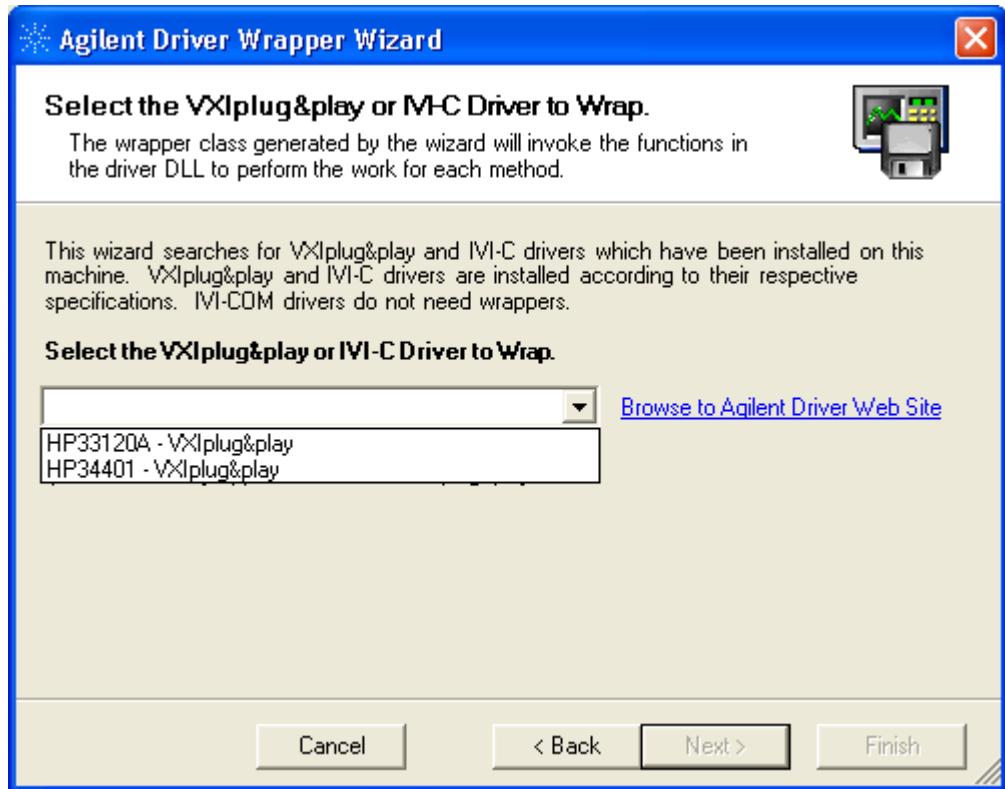
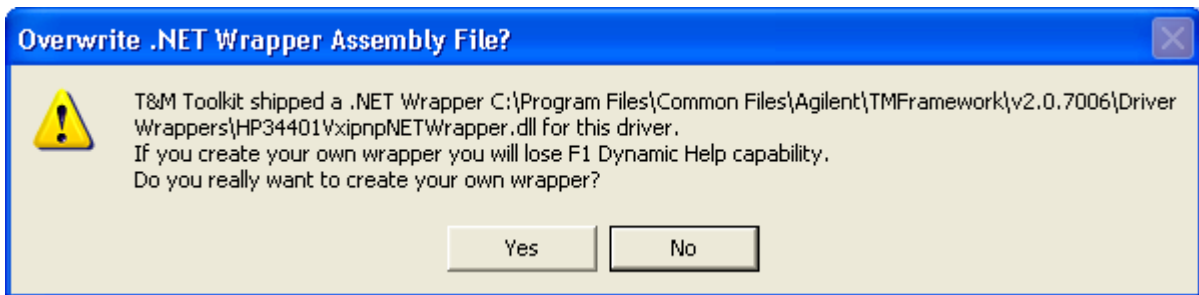

Figure 34 Selecting a VXIplug&play or IVC Driver to Wrap
Figure 35 T&M Toolkit Driver Wrapper Exists
- 5 Once you have selected a driver (shown in Figure 34) you might see the message in Figure 35. If you see this message, T&M Toolkit has shipped with a wrapper for this instrument. Cancel the driver definition process and use Instrument Explorer to establish your instrument connection using this driver and the existing wrapper. If you don't see this message box, choose **Next**.